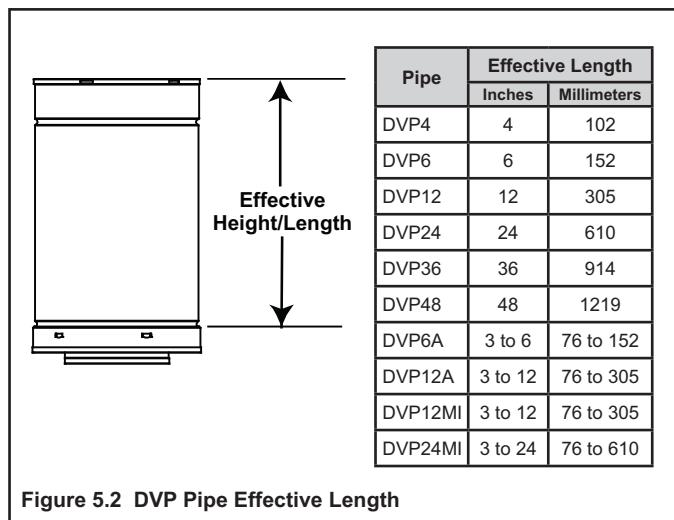

Figure 5.2 DVP Pipe Effective Length
1. Pipe measurements are shown using the effective length of pipe (see Figure 5.2).